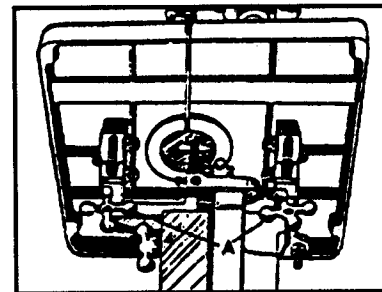

Fig.15
The table on your band saw can be tilted 45 degrees to the right and 10 degrees to the left. To tilt the table, loosen the two star wheels(A) Fig. 15. tilt the table to the desired angle and tighten the two star wheels (A).
Tighten the Six Hex. Hd. Cap screw(C) Fig. 15.